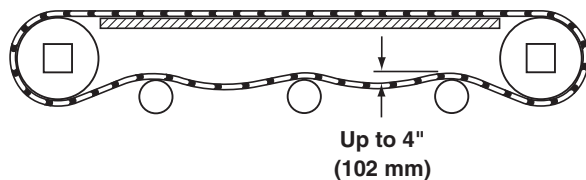

Figure 39
9. Check belt sag by measuring from the top of the return (**Figure 39**).